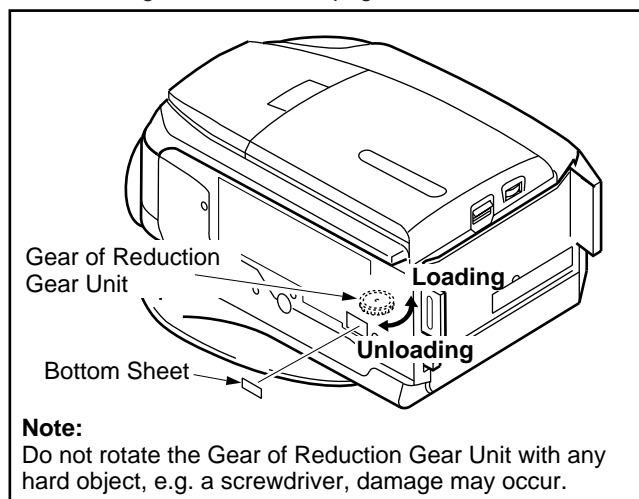

Fig. 4-5
- (1) Place the unit with the Cassette Cover facing upward as shown in Fig. 4-5.
- (2) Rotate the Gear of Reduction Gear Unit.